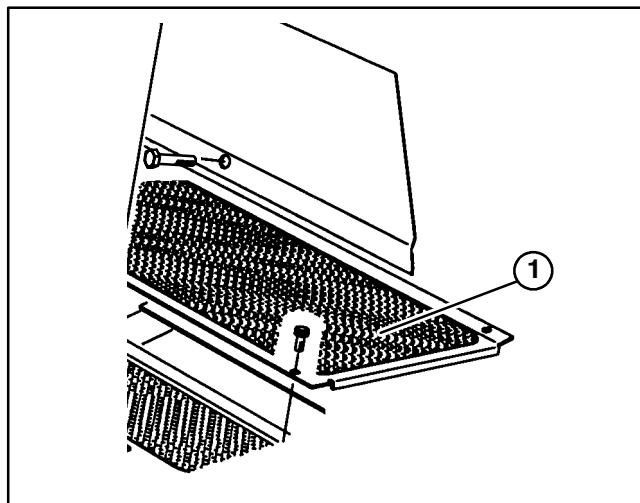

Figure 4
REPLACE FLOOR PANEL FASTENER (Required for CE) (Fig. 4)
1. Remove fastener securing left front corner of floor panel to frame (Fig. 4).
2. Replace with 5/16-18 x 5/8" lg. flange head capscrew supplied in loose parts (Fig. 4)